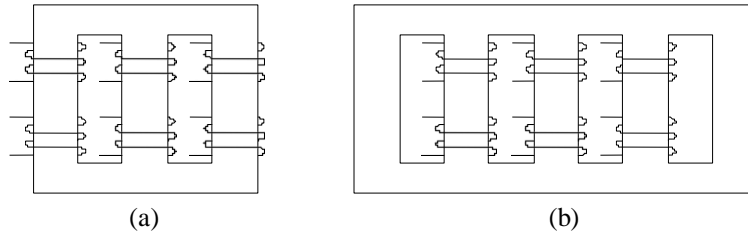

Figure 1
1. Identify the two types of transformer core shown in figure 1.